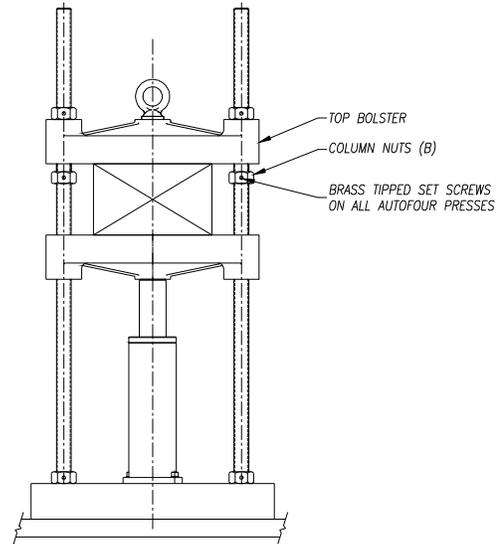

Figure 3-2
- With the press at maximum applied force, loosen the column nuts (B) located directly below the top bolster (FIG 3-2). On Auto Four presses, a brass tipped set screw must be loosened on each nut before nuts are loosened.
IMPORTANT: AutoFour models utilize a setscrew in the column nuts. These must be loosened prior to adjusting daylight, and retightened after adjusting daylight. (Reference FIG. 3.2 and 3.6)